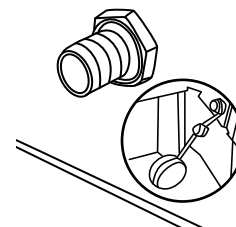

Figure 4
- This appliance is equipped with an auto water fill device (see Figure 4).